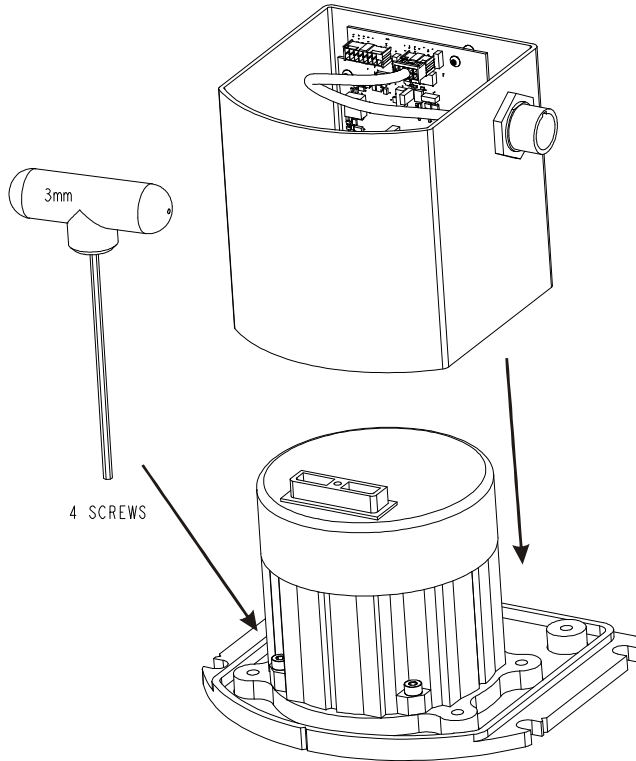

**Figure 77: Lift Top Cover and Tube Body**
4. Lift the tube body away from its base plate and set it aside, as shown in *Figure 77* on *page 379*.